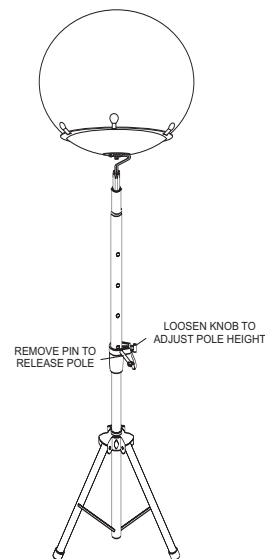

Figure 29. MBT Pole Height Adjustment
1. To adjust the height of the pole on the MBT tripod, remove the pin that holds the pole in place and loosen the knob (see Figure 29). Adjust the pole to the desired height and tighten knob to secure pole. Put back the pin to lock pole in place.